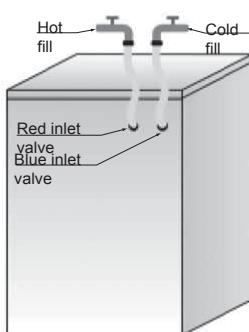

Fig.1
**If you wish to connect hot and cold water supply (Fig.1):**